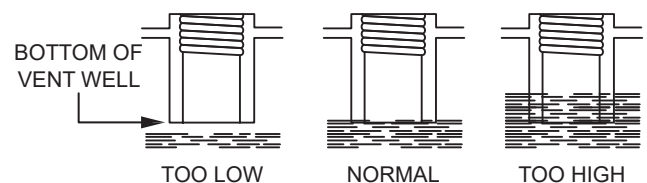

Figure 19. Battery Electrolyte Level
4. Check the battery electrolyte level (Figure 19). Make sure the electrolyte level is to the bottom of the vent well. Add **distilled water only** as needed.